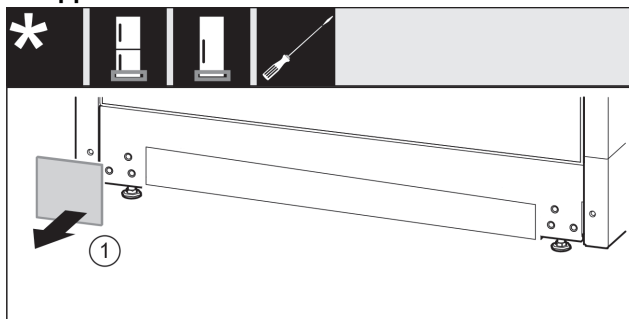

Fig. 17
- ▶ Remove the cover Fig. 17 (1).